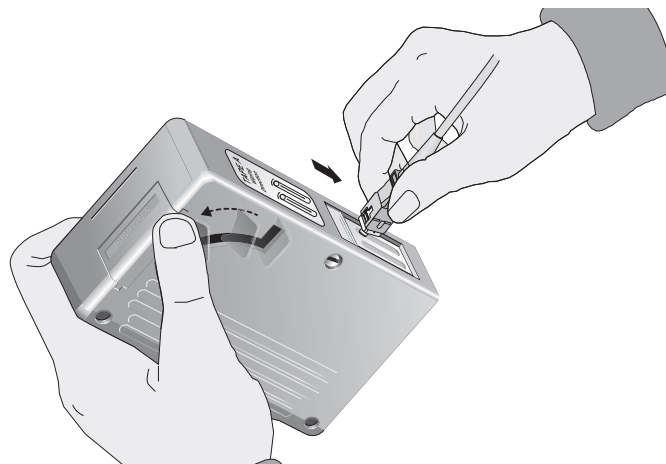

Figure 35. Rubbing the Ferrule Tip on the Cleaning Surface
1. With one hand, hold the cartridge cleaner and push the lever on the cleaning cartridge in the direction of the arrow to expose the cleaning surface, as shown in Figure 35.
2. Place the ferrule tip on the exposed cleaning surface and rub the ferrule in a downward direction, as shown in Figure 35.
1. Insert the swab into the adapter as shown in Figure 35 and rub the ferrule tip with the swab.